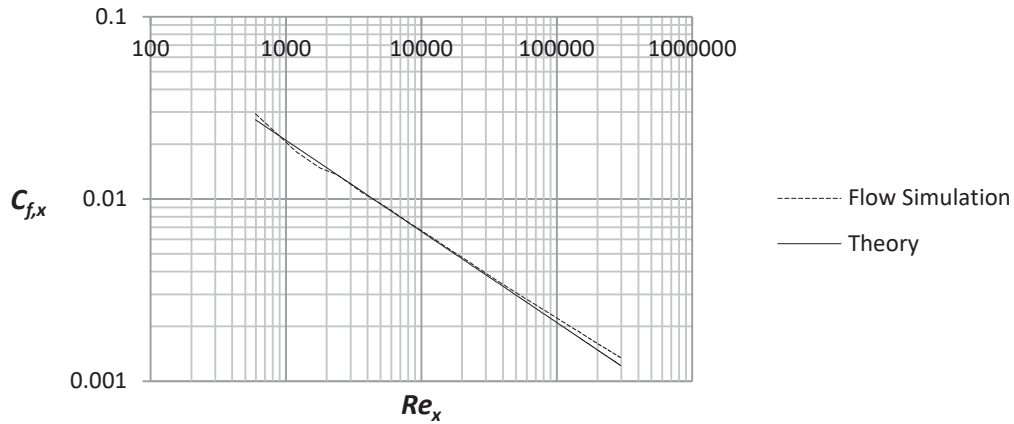

Figure 2.26 Local friction coefficient as a function of the Reynolds number
Place the file “**graph 2.26**” on the desktop. Repeat step **24** but this time choose the sketch **x = 0 – 0.9 m**, uncheck the box for **Velocity (X)** and check the box for **Shear Stress**. Use the file “**graph 2.26**” to create Figure 2.26. Rename the *xy*-plot to **Local Friction Coefficient**. Figure 2.26 shows the local friction coefficient versus the Reynolds number compared with theoretical values for laminar boundary layer flow.